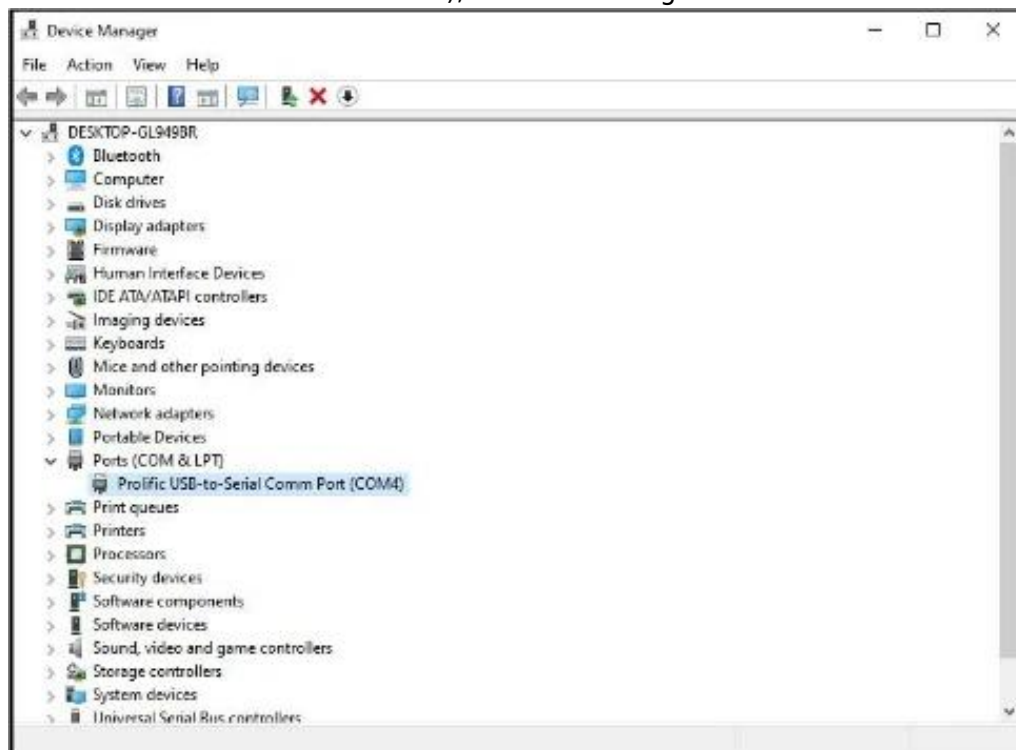

Figure 41
3. use USB to RS232 line to connect the instrument and PC (RS232 interface to connect the instrument, USB connector to connect the PC), as shown in Fig.41